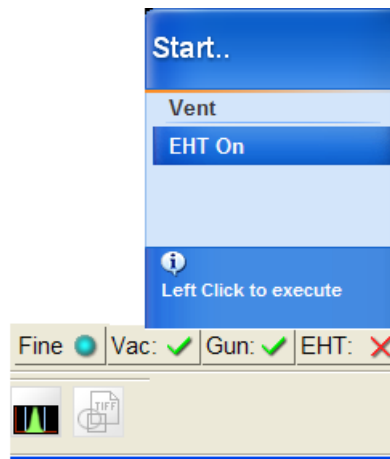

Figure 11: Starting up the EHT.
7. Turn on the electric high-tension (EHT) by left-clicking on 'EHT' at the lower right of the SmartSEM program and selecting 'EHT On'. See Figure 11.